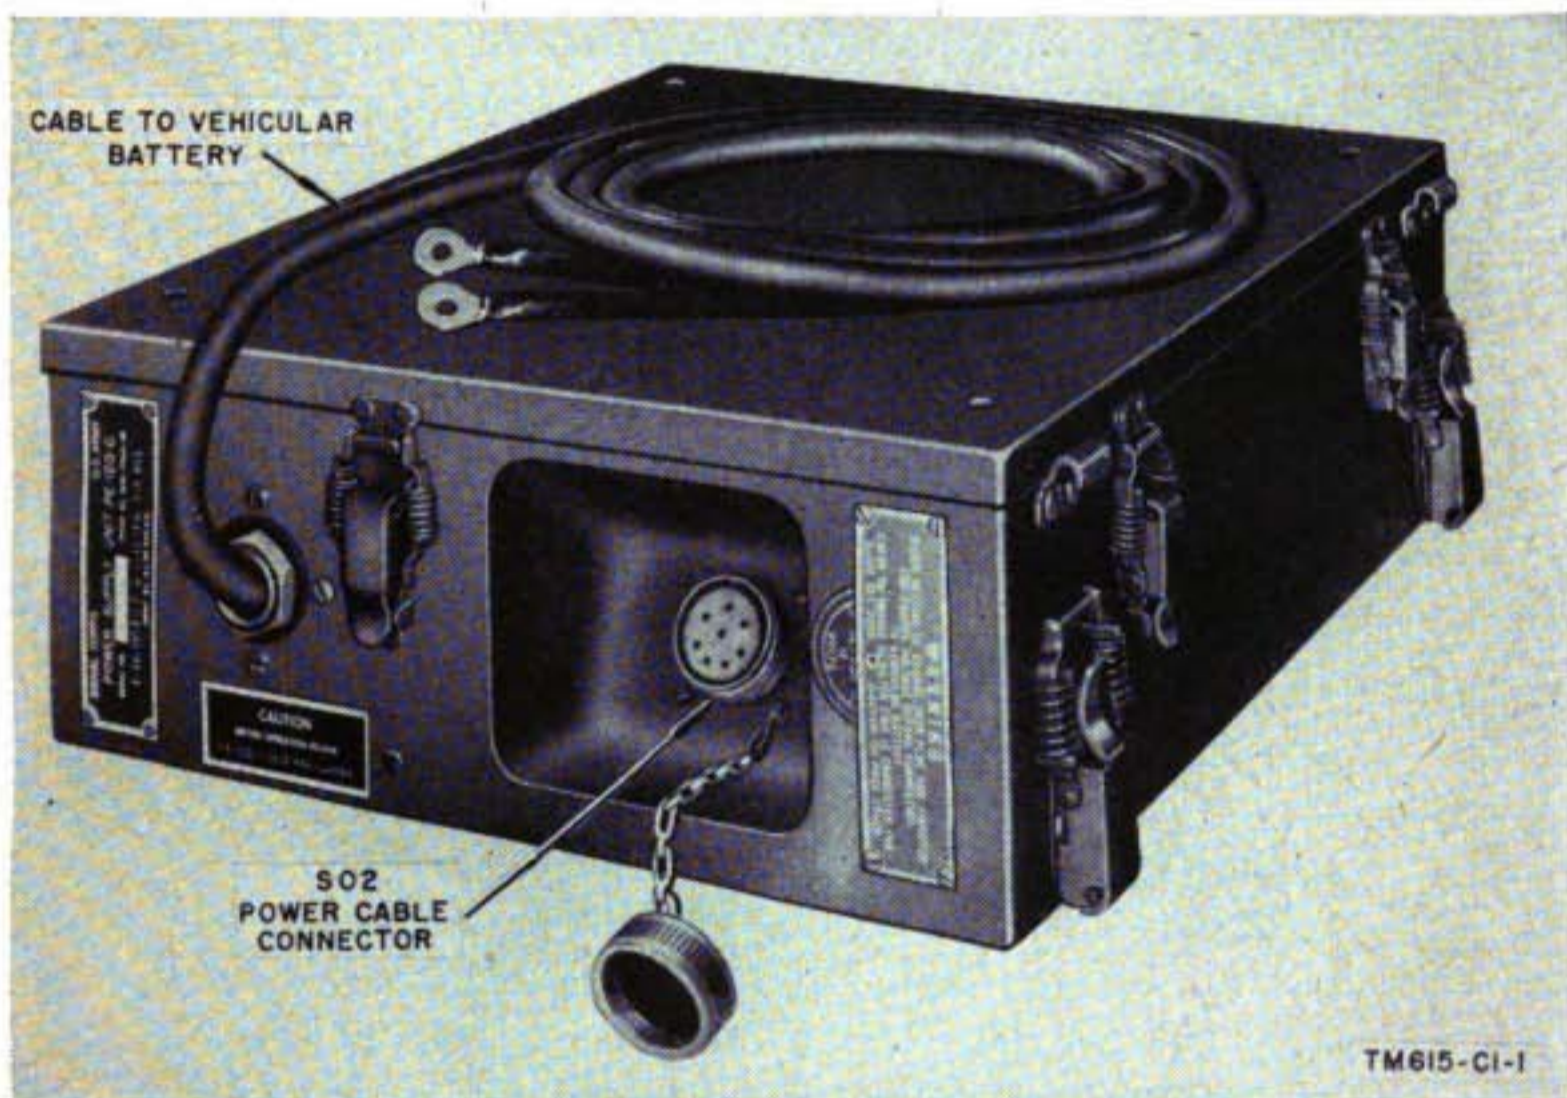

Figure 3.1 (Added) Power Supply Unit PE-120-C, exterior view.
d. Case CS-79-(*). Case CS-79-(*) contains * * * catch clips provided. Case CS-79-N is a modification of Case CS-79-(*) and is electrically interchangeable with it. Case CS-79-N is capable of withstanding heavy rains. The following mechanical improvements have been incorporated. The cover is easily removable. Five catch clips have been added to hold down the cover securely to the gasket. The connector cable has been replaced by a receptacle mounted on the recessed portion of the front panel (fig. 3.1).
- (3) Power Supply Unit PE-120-(*) is a vibrator-type power supply, designed for connection to 6-volt, 12-volt, or 24-volt vehicular batteries. Hooks and catch clips are provided on the power supply housing so that Radio Receiver and Transmitter BC-620-(*) can be mounted on top of, and secured to, Power Supply Unit PE-120-(*) or Mounting FT-317-(*). Power Supply Unit PE-120-(*) is contained in a metal case with space provided for a spare vibrator and spare fuses. The vibrators are of the plug-in type for quick and easy replacement.
- (4) Modification work order MWO SIG 11-605-7 covers the modification of Radio Receiver and Transmitters BC-620-A, -B, -F, and -G and Plate Supply Units PE-97-A and -D to provide improved filament voltage regulation. Radio Receiver and Transmitters BC-620-H and -J are not covered by this modification work order, since they were procured after its publication, nor do they contain the features of the modification. Therefore, the BC-620-H and BC-620-J are not to be used with the PE-97-(*). Instead, the BC-620-H and BC-620-J are to be used with Power Supply Unit PE-120-(*), which has self-contained filament voltage regulation. Power Supply Unit PE-120-(*) may be used with all models of the BC-620-(*). Power Supply Units PE-120-A, -B, and -C are all essentially the same and are interchangeable as units.
- (5) Externally, Power Supply Units PE-120-B and -C differ slightly from Power Supply Unit PE-120-A in appearance and in the manner in which the cover is secured to the case (fig. 3.1). The case cover for Power Supply Unit PE-120-B or -C is secured to the case with spring-loaded catches and is completely removable; the case cover for Power Supply Unit PE-120-A is hinged to the case and is not detachable. The eight-pin socket connector, SO2, is mounted in a recess in the side of the case of Power Supply Units PE-120-B and -C, instead of being connected to a cable extension as in Power Supply Unit PE-120-A.
- (6) Functionally, Power Supply Unit PE-120-B or -C is interchangeable as a unit with Power Supply Unit PE-120-A. Because of the difference in the mounting of socket connector SO2, however, the interior chassis, which mounts the components of Power Supply Units PE-120-B and -C, cannot be installed in the case designed for Power Supply Unit PE-120-A, and the chassis of Power Supply Unit PE-120-A cannot be installed in the cases designed for Power Supply Units PE-120-B and -C.